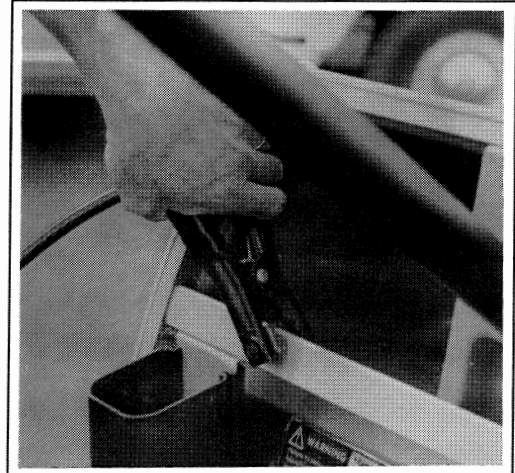

Figure 17
Never connect to the negative (-) terminal of the "Dead" battery, connect to the frame (See Figure 17).
4. Connect other end of black jumper cable to stalled vehicle frame away from gasoline and battery as in Figure 17.